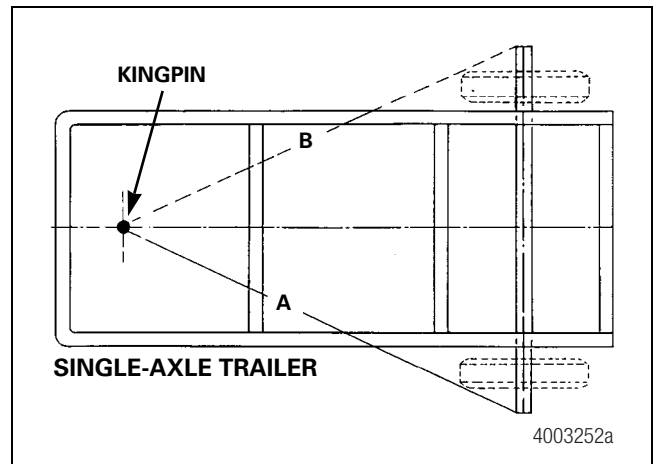

Figure 8.8
4. Attach a steel measuring tape to a hook. Attach the hook to the kingpin and measure distance "A" on the roadside and "B" on the curbside of the trailer. Figure 8.8. The difference between these dimensions must not exceed ± 0.0625 inch (± 1.59 mm). Adjust the axle, if necessary, to bring this difference within specification.